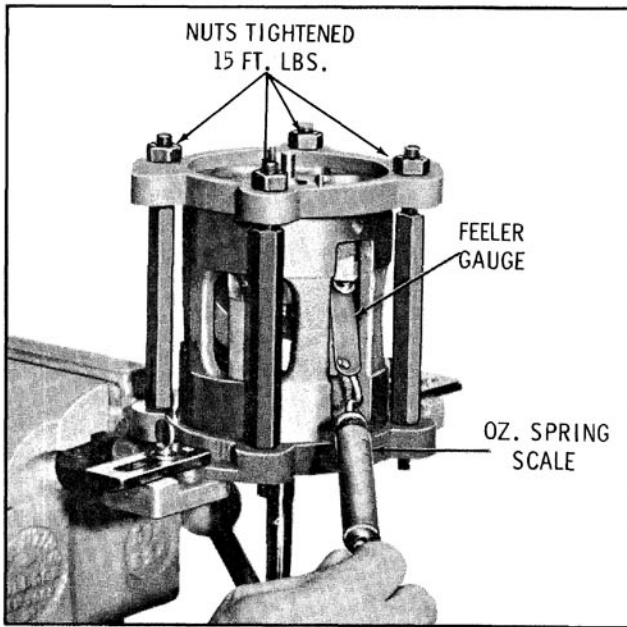

Fig. 14-119 Checking Drive Ball to Swash Plate Clearance
c. Pull on spring scale to slide feeler gauge stock out from between ball and swash plate, and note reading on spring scale as feeler gauge is removed, Fig. 14-119. Reading should be between 4 and 8 ounces.